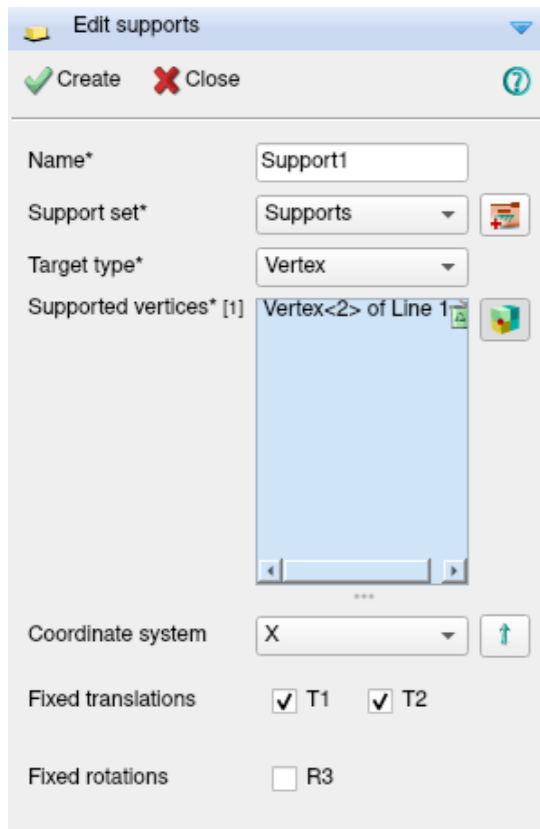

Figure 16: Attach left support
**Main menu** → Geometry → Assign → Supports [Fig. 16]